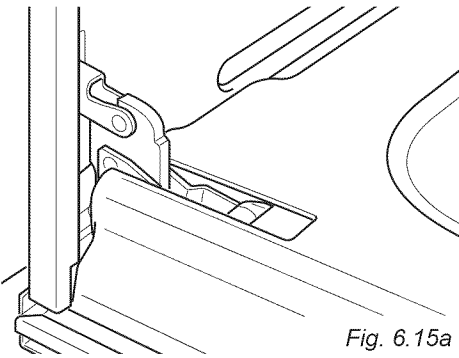

Fig. 6.15a
- Open the door to the full extent (fig. 6.15a).